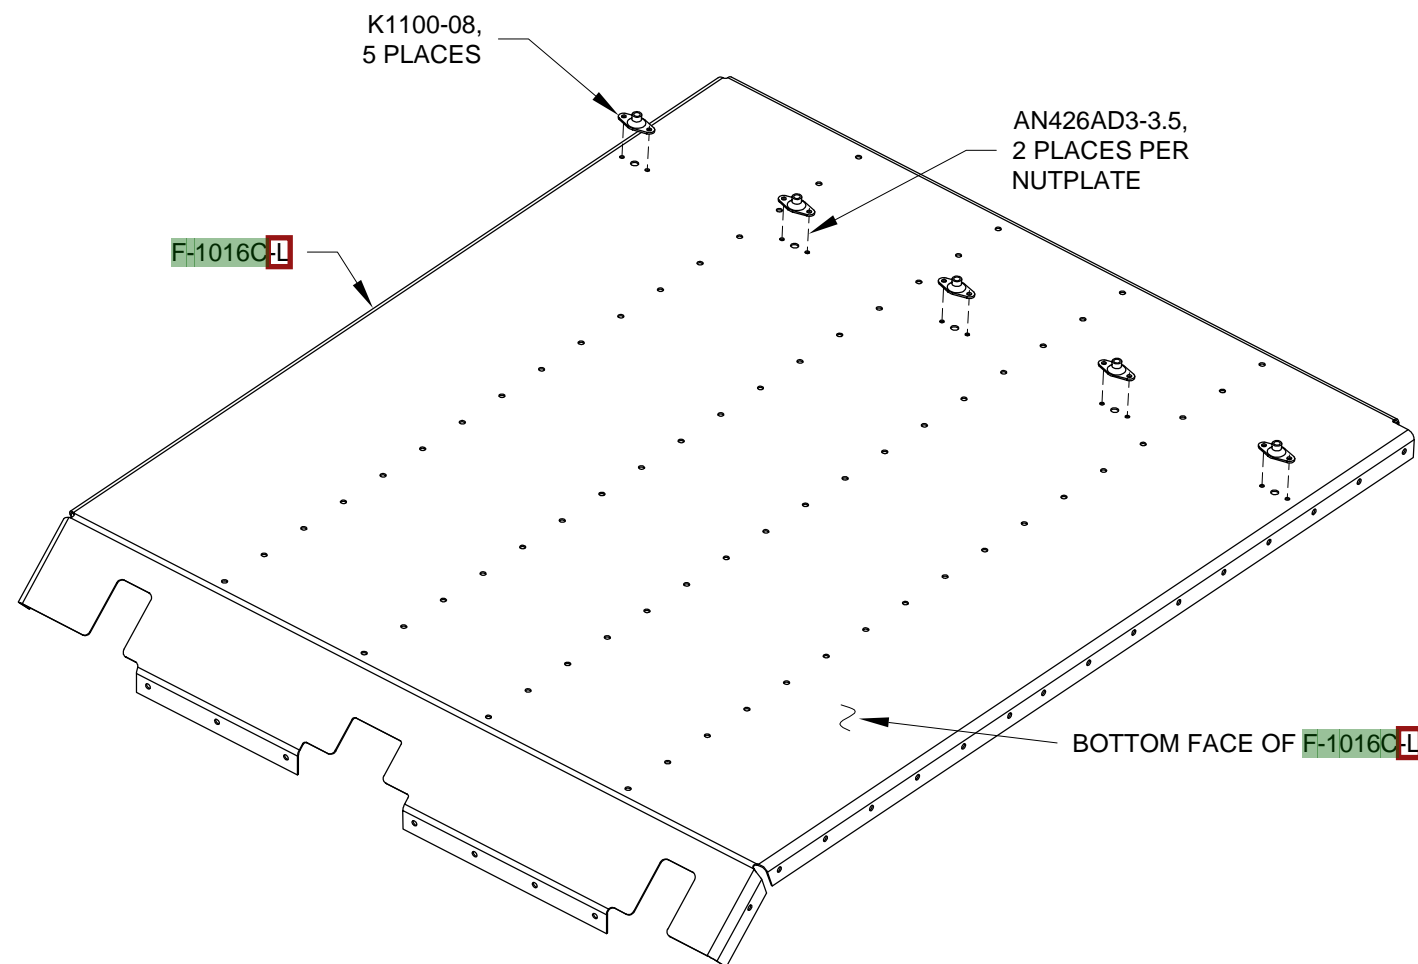

FIGURE 1: FLOOR PAN NUTPLATE INSTALLATION
Step 2 (Standard Kit): Final-Drill #19 the screw holes and Final-Drill #40 the corresponding nutplate attach holes in the bottom face of the **F-1016C-L** Floor Pan. Final-Drill #30 the remaining holes in the bottom face of the floor pan. See Figure 1.
Step 3 (Standard Kit): Remove the **F-1016C-L** Floor Pan. Deburr the holes and edges of the floor pan and the holes drilled in the under structure in Step 2. Dimple all the rivet holes in the bottom face of the floor pan, see Figure 1. Dimple the screw holes in the bottom face of the floor pan for the head of an #8 screw (flush face on top side). Prime the floor pan if desired. Dimple the nutplates.
Step 4 (Standard Kit): Rivet the five nutplates to the bottom side of the **F-1016-L** Floor Pan per the callouts in Figure 1.